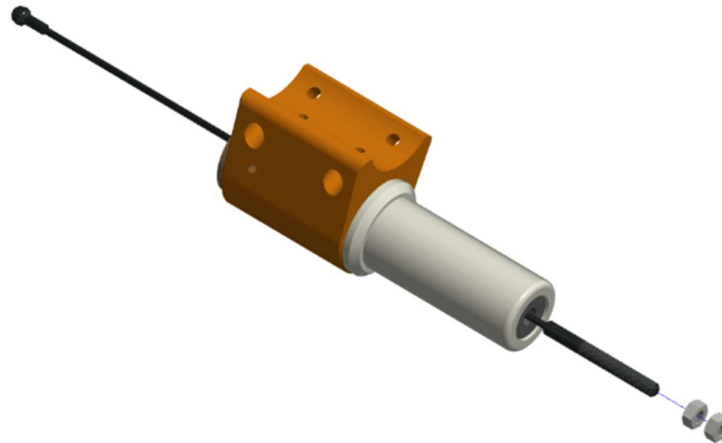

Figure 10-17. Remove the two M5 Hex Nuts from the Achilles Cable (474-5530)
- 10.2.13 Remove the two M5 Hex Nuts from the Achilles Cable (474-5530) (Figure 10-17).